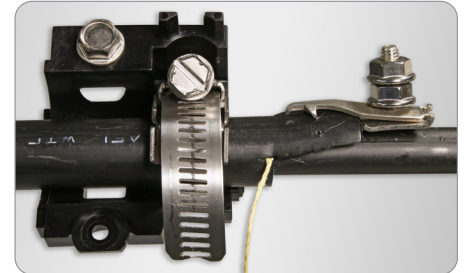

Figure 16
2. If cable is armored a tab will be left for the ground stud, it should be oriented to the side of the CAU. (Figure 16)